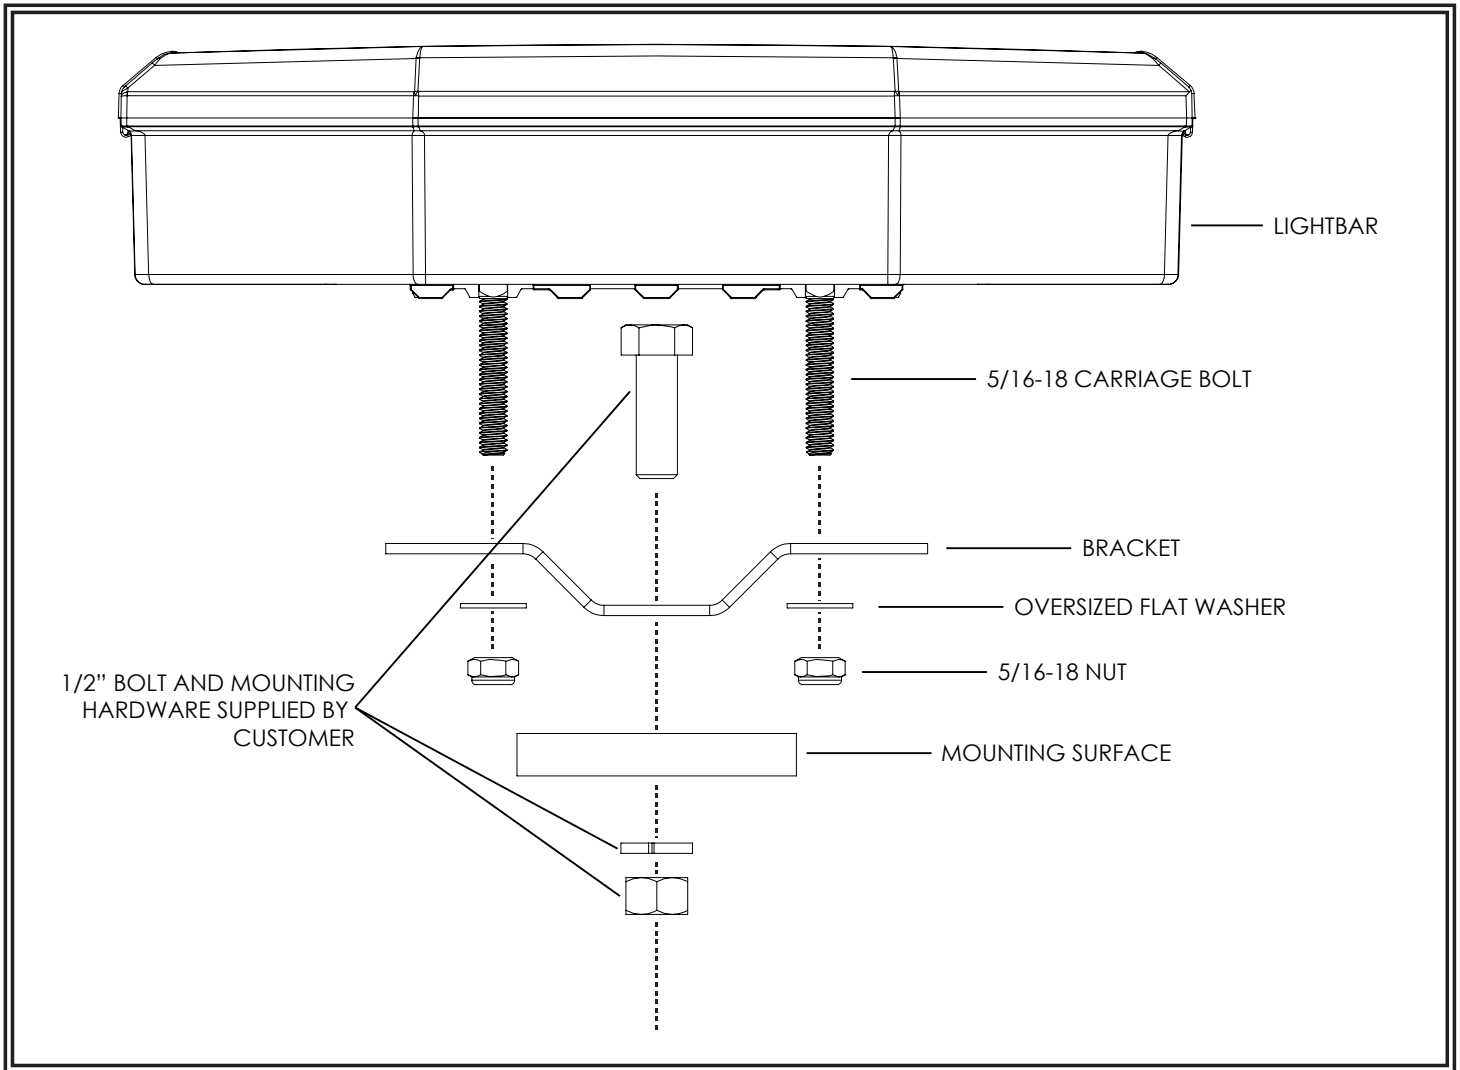

Figure 3
2. Insert the four (4) 5/16"-18 carriage bolts in the channels on the under side of the lightbar and loosely attach the mounting brackets.
4. Secure the brackets to the lightbar with the supplied washers and nuts as shown in FIGURE 3.